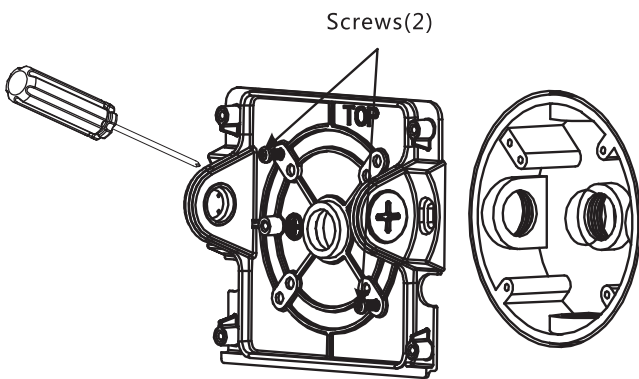

Fig. 5
5. Mount Housing Back Plate to surface or junction box (supplied by others) and secure with (2) Screws (supplied by others) as shown in Fig.5